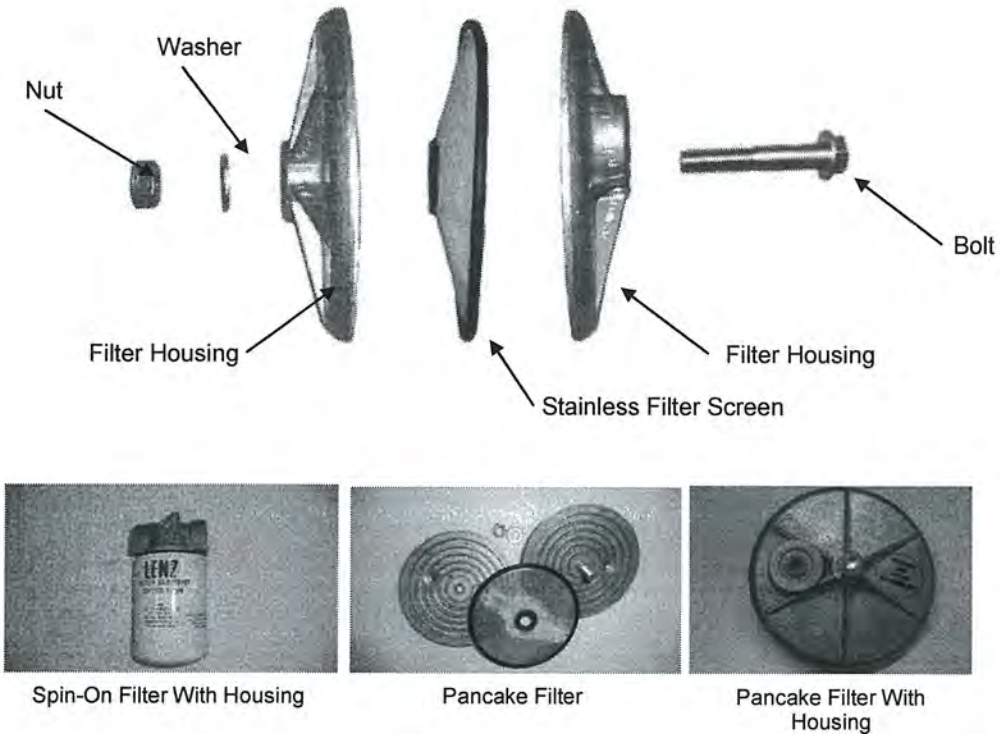

Figure 37 – Oil Filter (New Style Spin-On Filter and Old Style Pancake Filter)
- Check, clean or replace oil filter as needed as shown in Figure 37.